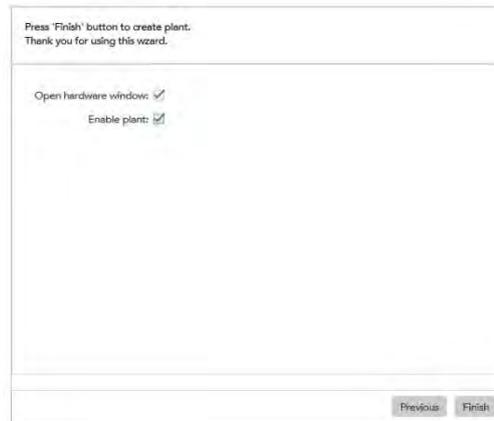

Figure 44: End of the Plant Creation Wizard.
5. Check both boxes in the next window (Figure 44) and click „Finish“.